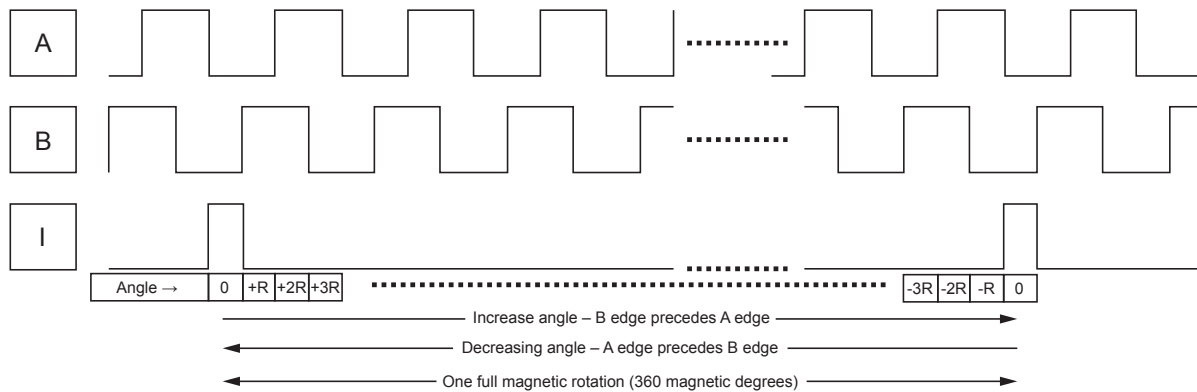

Figure 24: One Full Magnetic Revolution
a frequency of 2^N cycles per magnetic revolution, giving a cycle resolution of $(360 / 2^N)$ degrees per cycle, where N is set by the RESOLUTION_PAIRS field in EEPROM; see Table 2. B is offset from A by $1/4$ of the cycle period. The “I” signal is an index pulse that occurs once per revolution to mark the zero (0) angle position. One revolution is shown in Figure 24.